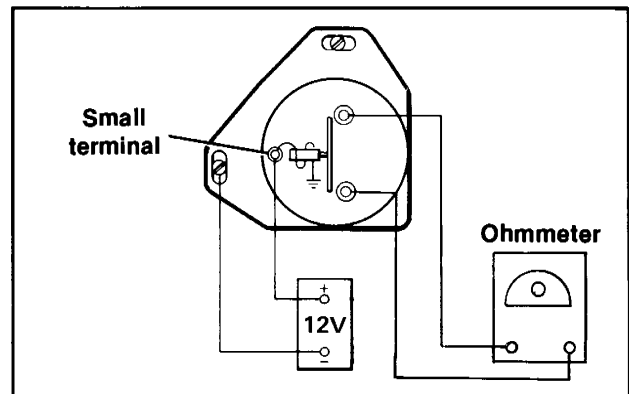

Figure 5-20. Starter Relay Test Circuit — Early 1985
3. See Figure 5-20. Connect a fully charged battery and an ohmmeter to the relay as shown. With relay contacts closed and ohmmeter on "RX1" scale, the contact resistance must be less than one ohm.